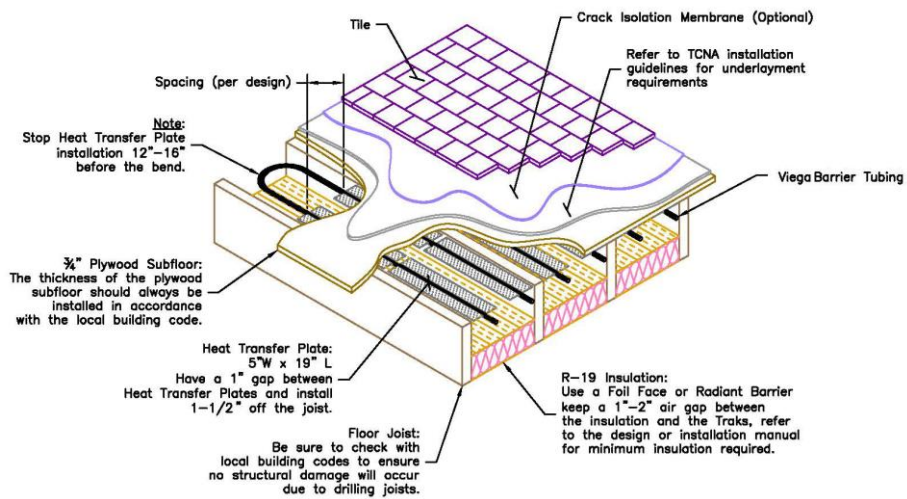

Figure 4 Heat Transfer Plate – In-Joist
**Heat Transfer Plate:** Heat transfer plates are a light gauge, preformed aluminum plate compatible with 3/8" (9.5 mm) or 1/2" (12.7 mm) Viega Barrier tubing depending on the model. When the tubing is located between the joists beneath a wood-framed floor, aluminum heat-emission plates can be installed over the tubing. The tubing is inserted into the plates with a bead of approved silicone sealant (e.g., Viega Groove Tube heat transfer adhesive). The plates are then stapled to the underside of the wood subfloor and insulation is installed beneath the aluminum plates Trak in the joist cavity leaving a 1-2" space between the insulation and the plates. See Figure 4.